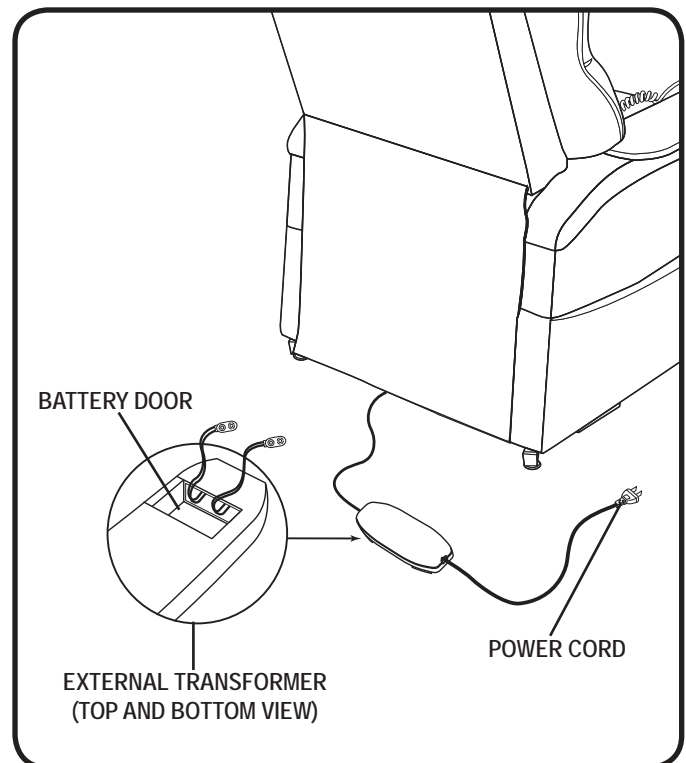

Figure 4.4 Chair Battery Backup Location
3. Install two 9V batteries into the external transformer (**fig. 4.4**).